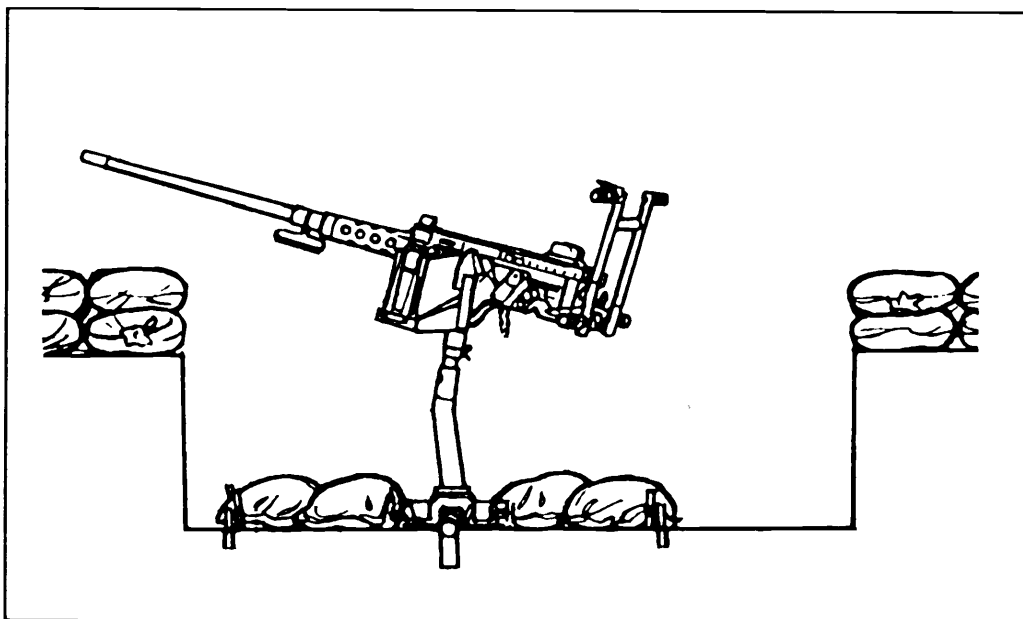

Figure 1-7. Antiaircraft mount, M63.
- (1) To set the tripod trail legs--
- (2) *To set the front leg of the tripod-*
- (3) To secure the tripod legs, stamp the metal shoe on each tripod leg into the ground. Sandbag each leg to stabilize the M2 for firing.
b. **Antiaircraft Mount, M63.** The antiaircraft mount (Figure 1-7) is a four-legged, low silhouette, portable mount used for antiaircraft fire. Table 1-3 lists the general data pertaining to the M63.